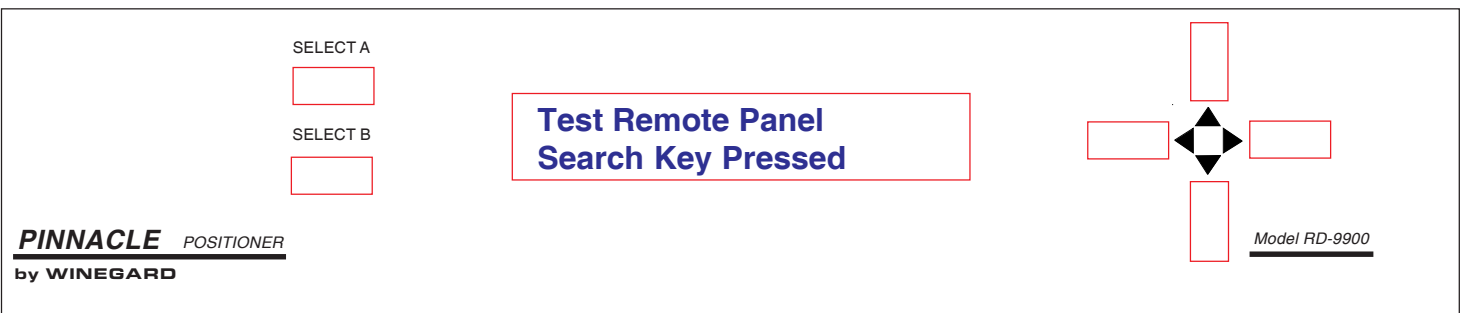

Figure 19
12. Press **[SEARCH]** button twice. **Search Key Pressed** will be displayed on positioner. See Figure 19.